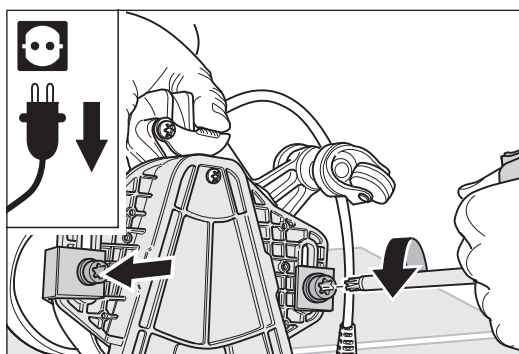

Fig. 35 Undo the two screws that connect the attachment.
- 3 Use the universal spanner to undo the two screws which connect the attachment to the fan housing (fig. 35).